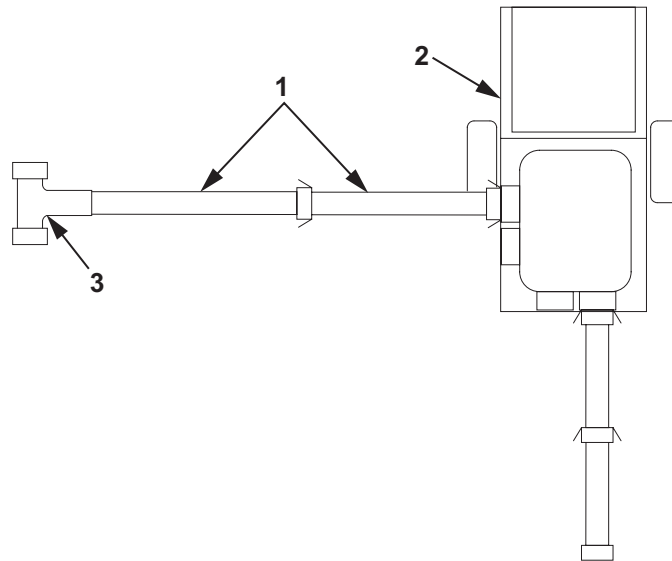

Figure 8. Installation of Discharge 350 GPM Fuel Pumping Assembly.
11. Connect the two sections of 4 in. X 25 ft discharge hose (Figure 8, Item 1) to the discharge side of the 350 GPM fuel pumping assembly (Figure 8, Item 2).
13. Connect the male X male X female tee assembly (Figure 8, Item 3) to the end of the 4 in. X 25 ft discharge hose (Figure 8, Item 1).